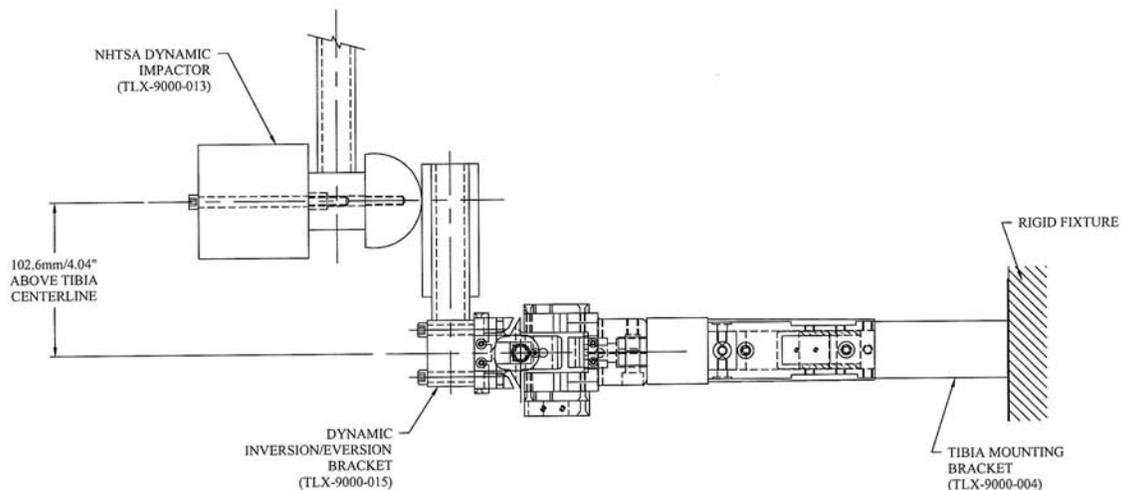

Figure 10. Dynamic Inversion/Eversion Impact Test Setup
These tests consist of two impacts (one each for inversion and eversion) to a padded bracket (Fig. C-5) which is attached to the sole plate of the foot. The bracket is attached such that the line of impact is offset from the longitudinal axis of the tibia, and the resulting motion of the foot exercises the inversion and eversion properties of the ankle assembly. The leg is held rigidly such that the X-Z plane of the foot and lower leg are horizontal as shown in Figure 10. The impact surface of the bracket is covered with Ensolite padding to reduce noise transmission through the bracket into the ankle and load cell.
5. Mount the leg to the tibia mounting fixture at the lower flange, such that the X-Z plane of the foot and lower leg are horizontal as shown in Figure 10. The test fixture must be rigidly secured so that it does not move or vibrate excessively during impact.
9. Adjust the fixture so that the longitudinal centerline of the pendulum arm and the struck surface of the inversion/eversion bracket are vertical at impact, within  $\pm 0.5^{\circ}$  and the point of impact is  $102.6 \pm 2.5$  mm ( $4.04 \pm 0.1$  in) above the ankle X-axis pivot point (Figure 10). (Note: The impact location at 102.6 mm above the pivot point was selected to maintain consistency with the ball of foot impact location, therefore minimizing the time required for setup.)